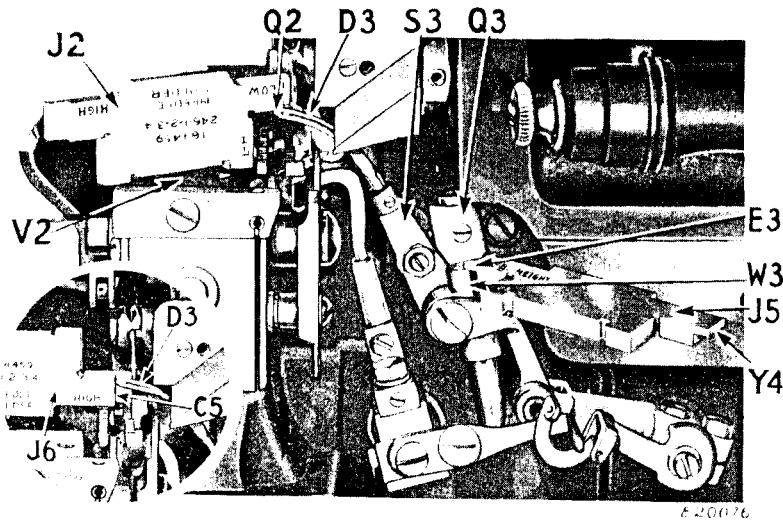

Fig. 22. Setting the Right Looper
See Figs. 22 and 23
1. When the right looper carrier is at its extreme left position, the distance between the bracket Q3 and the guide bar W3 must not be greater than the thickness E3 on the end of the gauge, J5, Fig. 22, marked "LOW." However, this clearance must be at least equal to the thickness Y4 on the end of the gauge marked "HIGH."
3. Insert the looper D3 in the looper carrier S3 and place the gauge on the throat plate seat, as shown at J2, Fig. 22. When the right looper D3 is at its extreme left position, it should just touch the undersurface Q2 on the "LOW" end of the gauge.
4. When the right looper passes the left looper, it should pass behind the left looper head and in front of the needle. Place the "HIGH" end of the gauge, shown at J6 in the insert in Fig. 22, against the left side of the needle. Turn the machine pulley until the right looper D3 is at its extreme left position. At this point, the tip of the right looper D3 should just touch the surface C5 of the gauge.